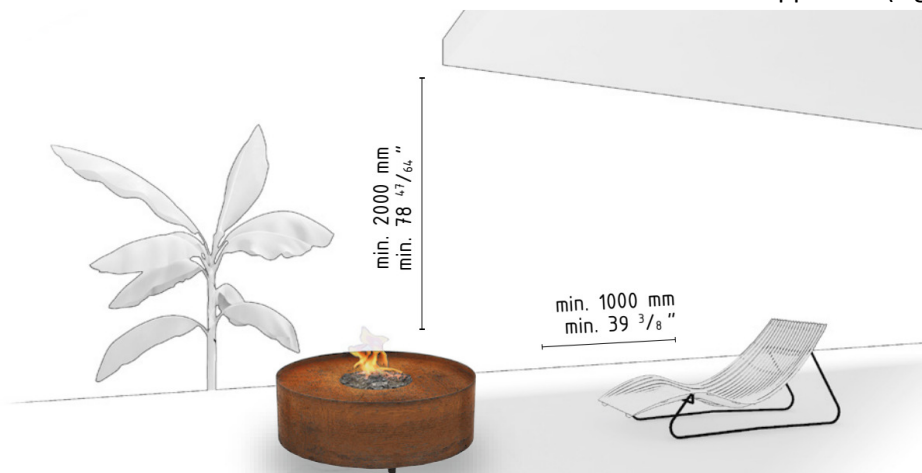

Figure 1: Minimum distance to flammable materials
- This appliance must be kept away from flammable materials during use. Do not place any combustible materials within a distance of 1 m of GaLiO Fire Pit Corten and 2 m over the appliance (Figure 1).